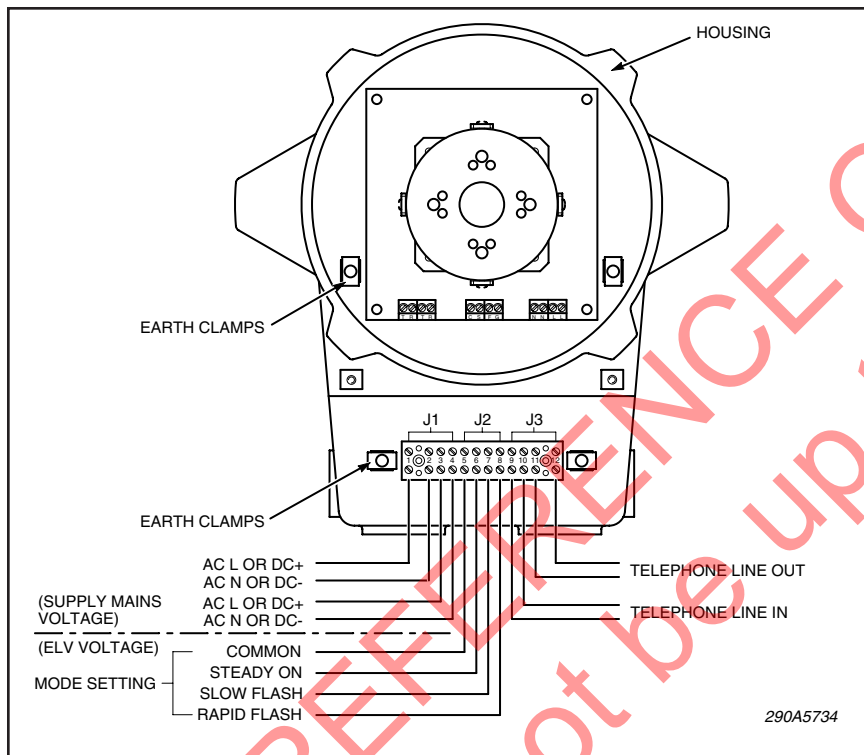

Figure 2.
e. A twelve-pole screw terminal block is provided for field wiring. See figure 2 for wiring diagram. These terminals are rated for the following wire ranges: 22 to 12 AWG (0.5 to 4 mm²). Terminal tightening torque is 0.5 to 0.7 Nm. The power feed through terminals of J1 are rated for 300V, 10 amps maximum. See section D for specific mode of operation wiring.